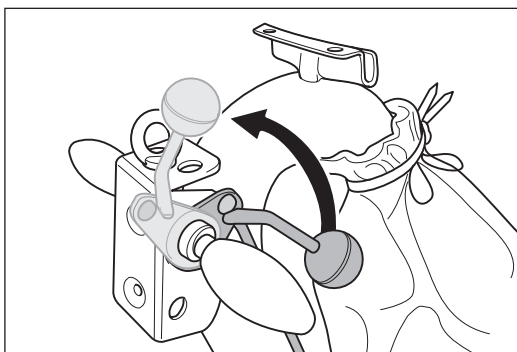

Fig. 66 Lift the sanding drum off the floor by turning the lowering lever at the handle upwards
During the test run, the sanding drum must be raised off the floor (Fig. 66)!
- 1 **Lift the sanding drum off the floor by turning the lowering lever at the handle upwards (Fig. 66)!**
- 1 Lift the sanding drum off the floor by turning the lowering lever at the handle upwards (Fig. 66)!**